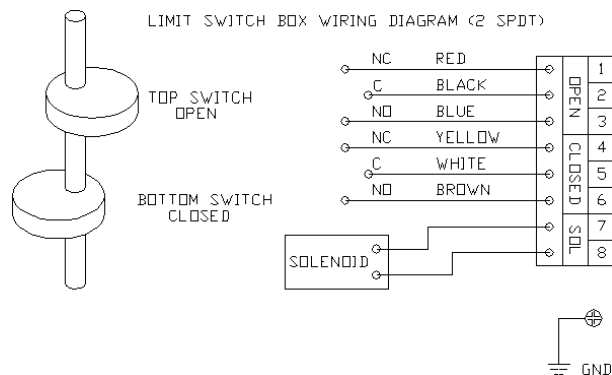

FIGURE NO. 1
Limit switches are pre-set at the factory for normally open or normally closed. FPS does not recommend that the user perform service on any of the internal components within the limit switch enclosure. In the event that foreign material enters the enclosure and impairs proper operation the limit switch enclosure should be replaced. Figure No. 1 below shows the wiring configuration.
- 3) Ensure field wire connections in the terminal block are landed on the correct terminals as removed in step 4). Refer to figure no. 1.